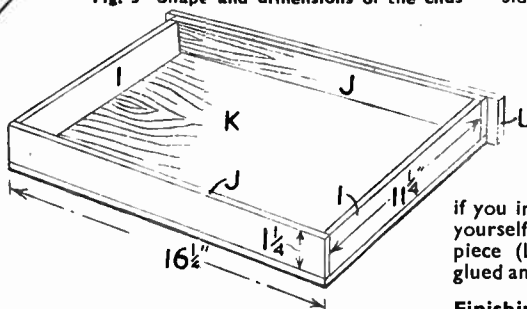

Fig. 5—How the drawer is made
The drawer is first made up as a shallow box of ¾in. material and to the measurements shown in Fig. 5. The short sides (I) are glued and pinned, with light fretpins, between the longer pieces (J). The floor (K) can be of plywood or composition board ¾in. thick. It will measure 16½ins. by 11½ins. It could also be constructed from two or three narrow boards to make up the total 11½ins., so long as they are securely pinned to the sides.